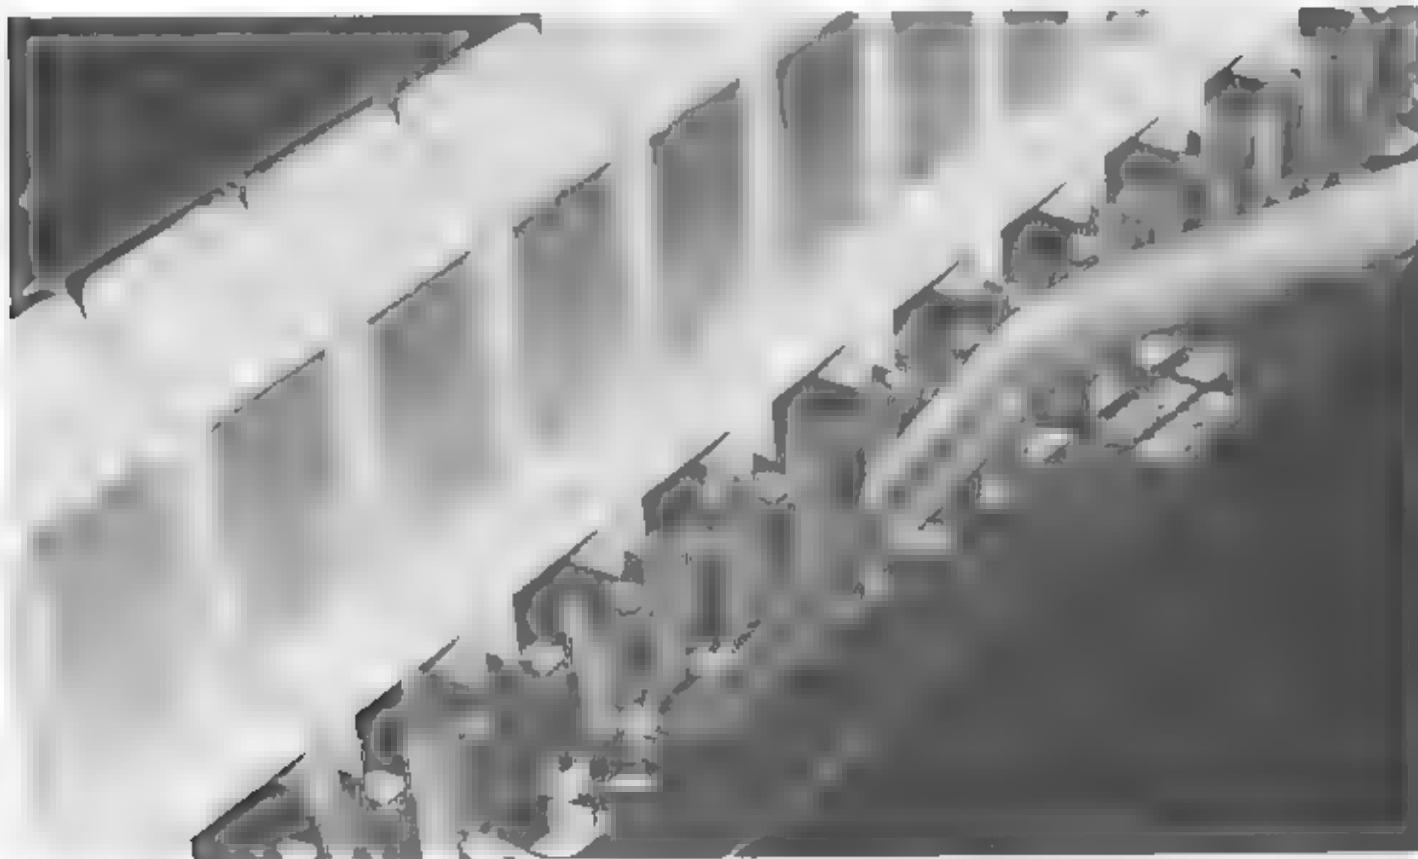

FIGURE 3.7 KEYBOARD HEIGHT ADJUSTMENT TOOL
i) Occasionally a key will be higher or lower than its neighbors when in the up position. To level the key, remove the ivory and bend the stop tab under the key up or down with keyboard height adjustment tool. (See Figure 3-7)